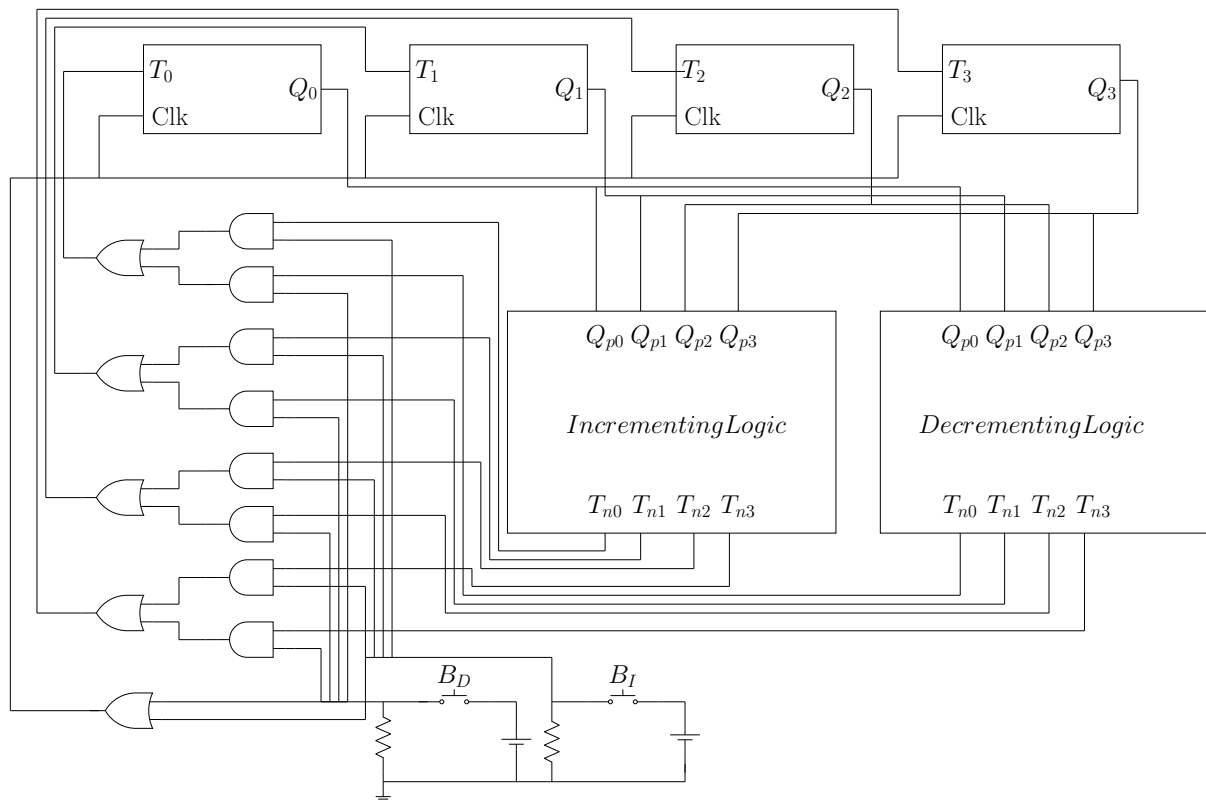

Figure 5: Combining Incrementing and Decrementing for one digit
- Design the mode selection logic using basic gates as shown in Figure 5.